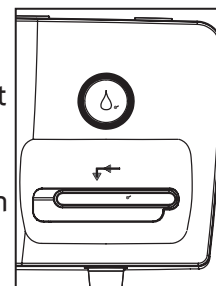

Figure 6
4. Close the lid and press the ON button on the front of the unit. (Figure 6)
the lever to the left while pressing down to fill the cup or bowl. Press to fill the cup or bowl with heated water (Figure 6). Note: The lever will automatically lock in place once you release the lever.